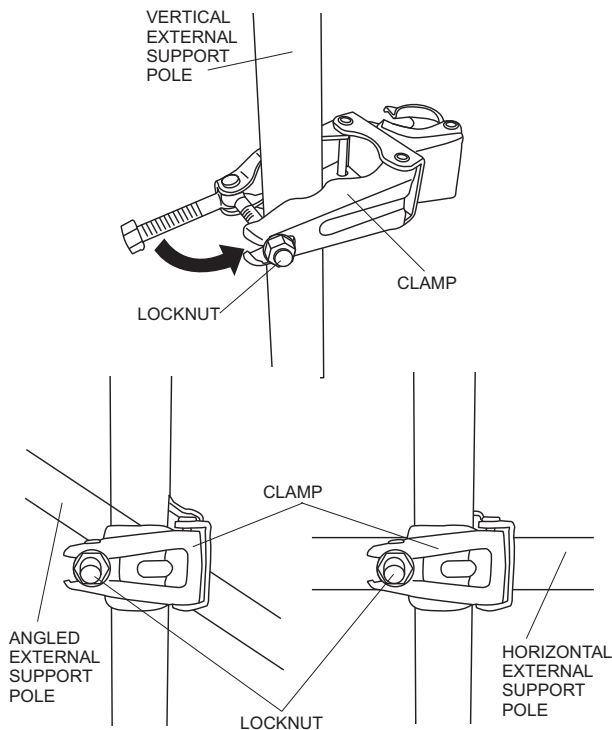

Figure 11. Clamp Attachment
1. Attach one of the clamps that come with the GBS to the external support pole. The clamps may be attached to vertical, horizontal, or angled pole. See Figure 11.
2. Using a 19 mm wrench, tighten the locknut securely. See Figure 11.